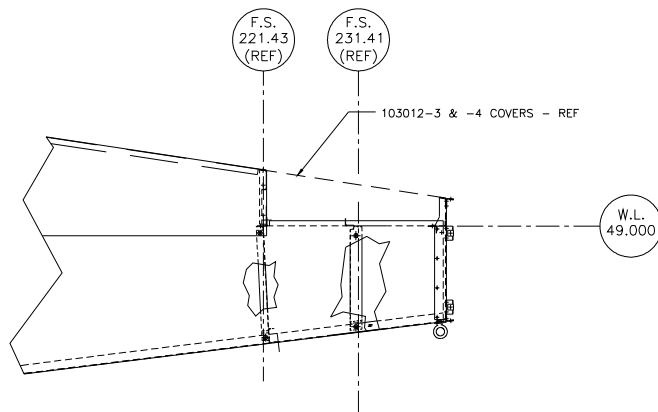

FIGURE 1
1. Remove the access covers below the Vertical Stabilizer. (Figure 1)